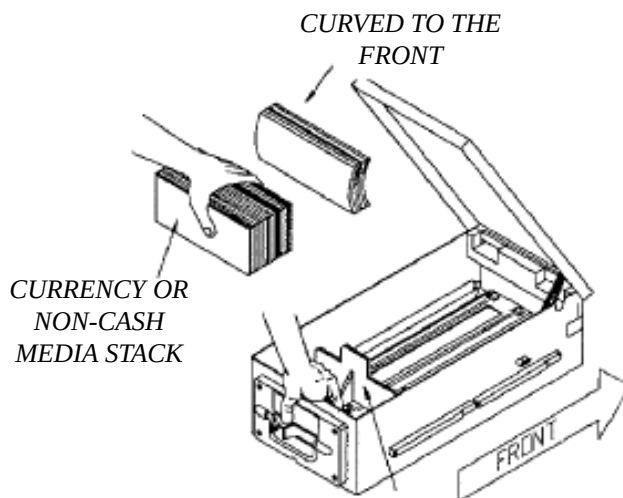

Figure 4-6. Replenishing the cassette
4. Load currency or non-cash media evenly in the cassette. The lower edge of each note should rest on the cassette note table. If the notes are curved, make sure the inside of the curve is to the front of the cassette when loaded (Figure 4-6).